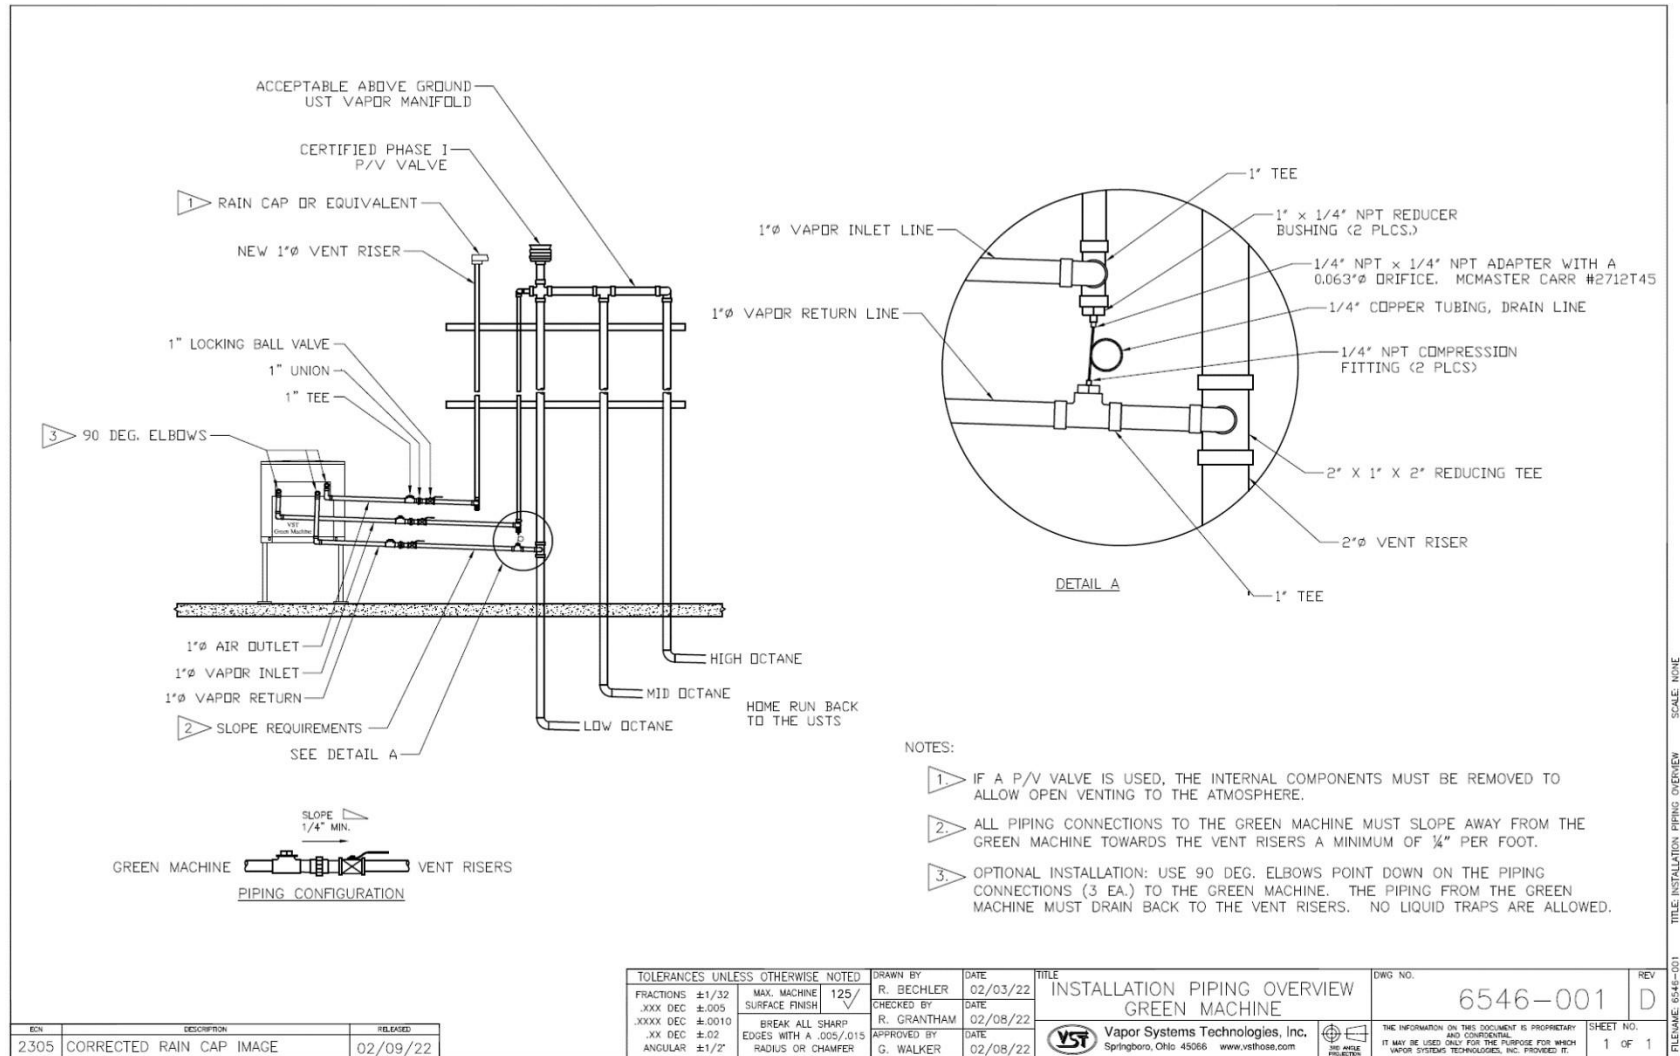

Figure 9-25: Vapor Piping Overview
1. At the GREEN MACHINE, remove the locks from the three ball valves, close the three valves, and remove a cap from one of the tees. (Only one open tee is required for this test.) **See Figure 9-25.**
**See Figures 9-25.**